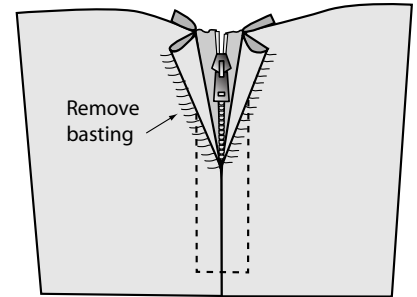

Figure 15
8. Remove transparent tape and basting stitches. (Figure 15)